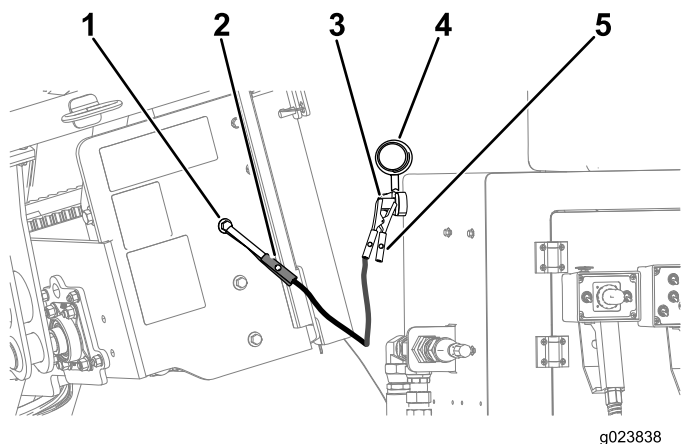

Figure 131
6. Remove the cover from the jump post (Figure 131).
7. Connect the positive (+) jumper cable to the jump post (Figure 131).
8. Connect the negative (-) jumper cable to a ground point, such as an unpainted bolt or chassis member (Figure 131).
10. When the engine starts, have the other person disconnect the negative (-) jumper cable from the frame and then disconnect the positive (+) jumper cable (Figure 131).